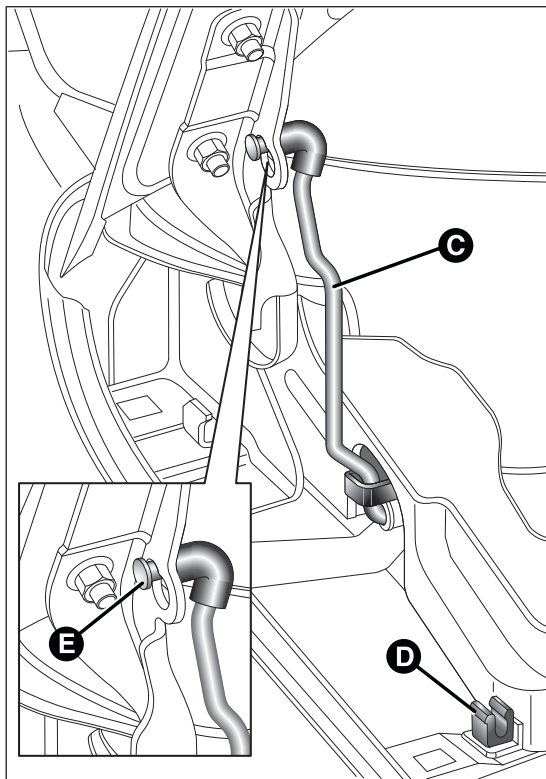

fig. 63
- ☐ lift the bonnet and, at the same time, release the supporting rod C fig. 63 from its catch D, then insert the end of the rod into housing E in the bonnet (larger hole) and push to safety position (smaller hole), as shown in the figure.
- ☐ keep the bonnet raised with one hand and remove rod C fig. 63 from housing E with the other, inverting the opening motion, then fit it back into its catch D;